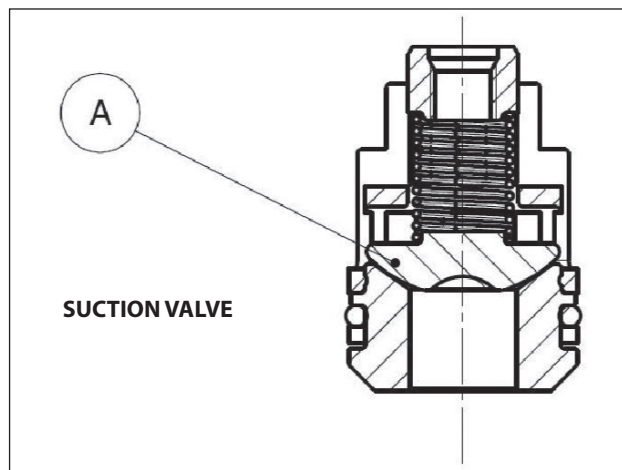
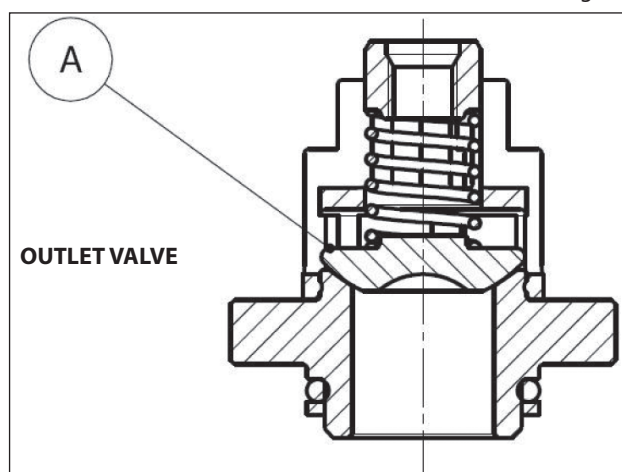

Fig. 26
Fig. 27
2. **On the HF18 – WK355 version, moreover, take care not to reverse the suction ball valves with the outlet valve "A" (Fig. 26, Fig. 27), exploded view pos. 46 as indicated in chapter 16 of the Use and maintenance manual.**